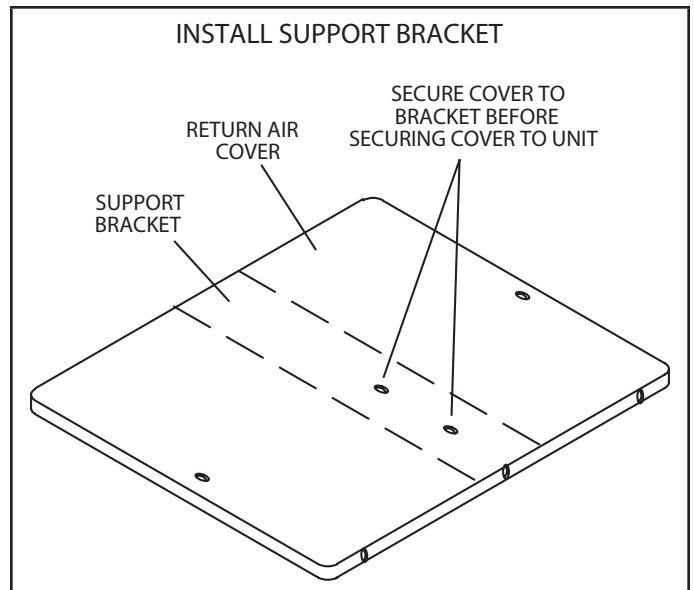

FIGURE 8
- 3 - Secure return air panel to the support bracket using screws provided. See FIGURE 8.